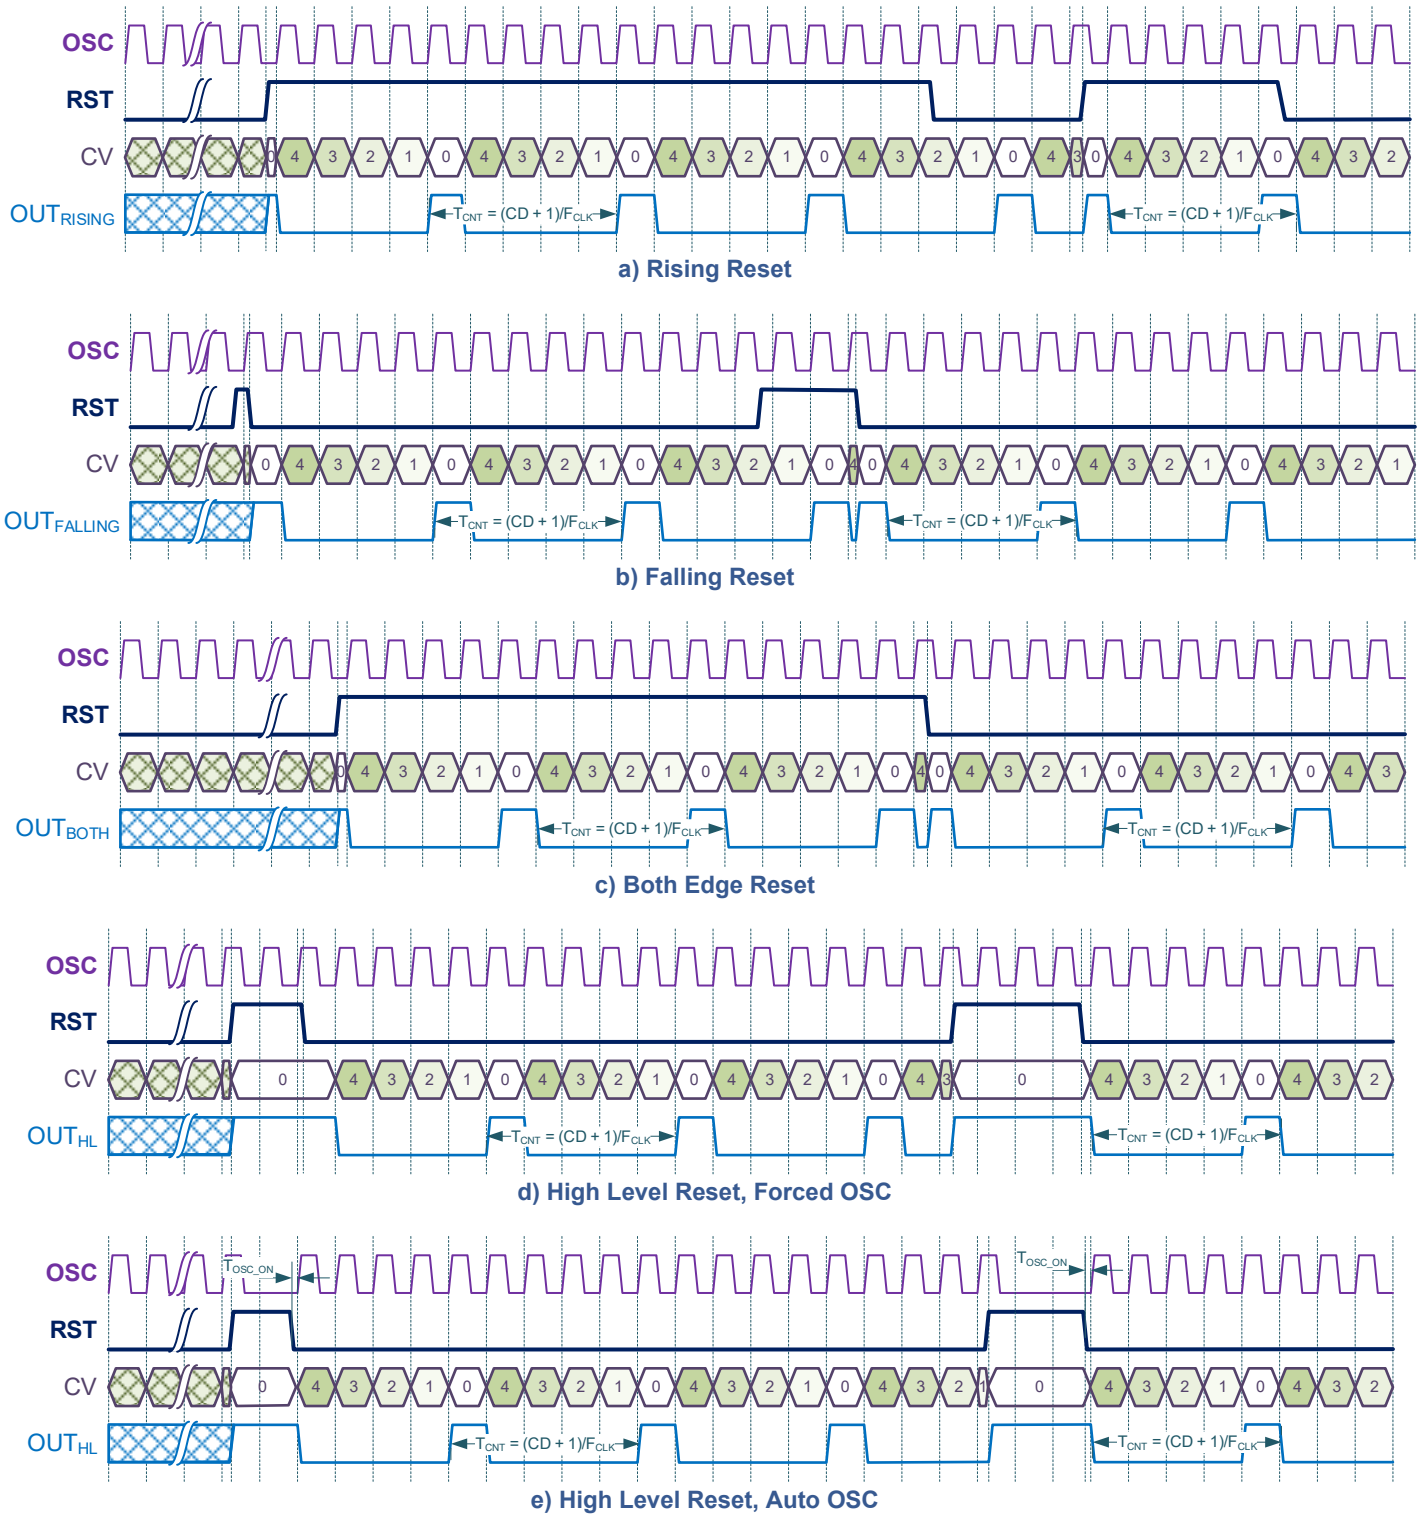

Figure 7.10. Counter Mode (Control Data: 4)
In the Counter mode the TMR divides input clock signal by the value determined by the Control Data, input clock signal and selected divider value. The output of the TMR goes HIGH every time when the Counted Value (current value of the counter) is equal 0. The RST in of the TMR reset Counted value to 0 by one of the following events: rising edge, falling edge, both edges, high level. The timing diagrams of this mode is shown in the Figure 7.10.
- Counter (Figure 7.10)